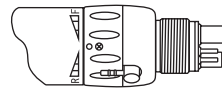

Fig. 5
- (3) When the FWD/REV Change Ring is positioned at the middle of “F” and “R”, the drive air is interrupted and the motor does not rotate. (Fig. 5)